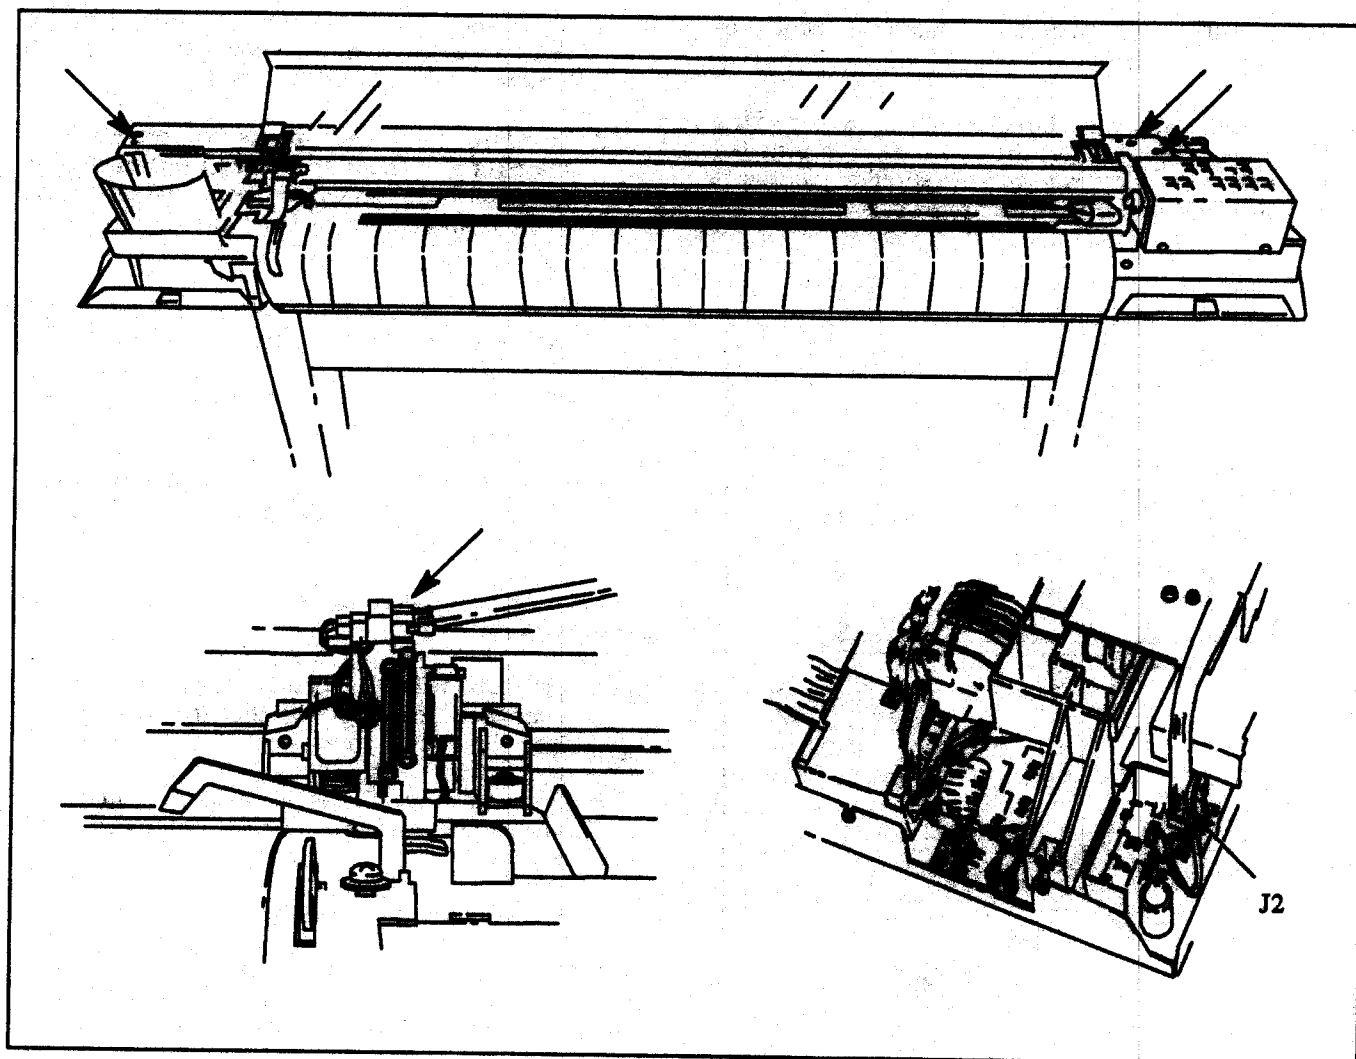

Figure 6-3. Center Cover Removal
- c. Lower the plotter's window and remove the two self-tapping and one machine screw from the center cover. See Figure 6-3.
- d. Standing at the rear of the plotter, gently lift the right side (nearest the carousel) of the center cover high enough to disconnect the trailing cable from the pen carriage and disconnect the trailing cable. See Figure 6-3.
- f. Disconnect the trailing cable from the PCA at connector J2. See Figure 6-3.
- b. Remove the machine screw and loosen the self-tapping screw from the right side of the center cover. See Figure 6-3.